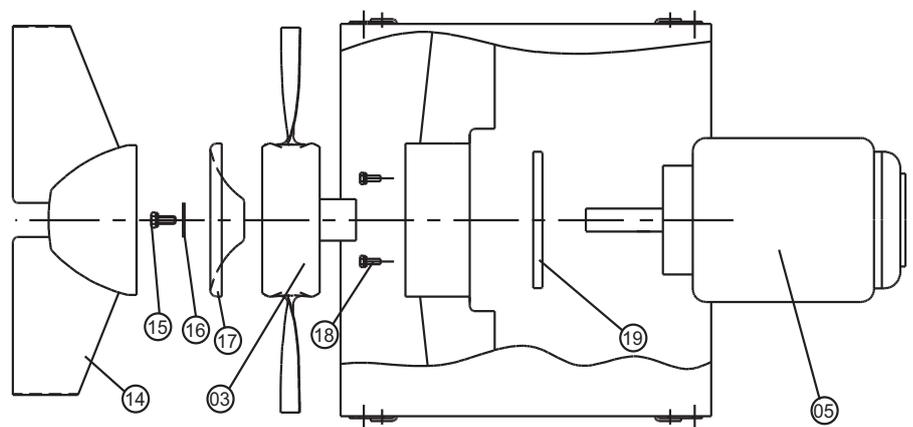

Figure 3. Dismounting/Mounting of motor
- 4 **ARR:** Remove screws in guide plates of centre fairing and pull out centre fairing figure 3, item 14.
- 5 Remove centre screw of impeller item 15 and centre disc figure 3, item 16.
- 6 **AUR:** Remove hub cover figure 3, item 17.
- 7 Dismount impeller figure 3, item 03 by means of a puller fastened in the two threaded holes of the hub boss.
- 8 Remove 4 set screws figure 3, item 18.
- 9 Dismount motor item 05 and motor flange figure 3, item 19. Note the placing of the motor prior to dismounting. When dismounting and disassembling the fan be careful not to expose the individual parts to shocks etc. likely to damage the motor bearings or other fan components.
- 1 After servicing remount the motor figure 3, item 05, see that the motor flange item 19 is correctly located and that the motor shaft is concentrically placed in the fan casing before tightening the set screws item 18.
- 2 Mount the impeller figure 3, item 03 on the motor shaft by means of screws fastened in the threaded hole of the motor shaft. Fix the impeller hub to rest against the motor shaft collar. Check that the blade clearance is the same throughout the circumference of the casing. If this is not the case, adjust the motor location in the mounting frame arrangement.
- 3 Mount centre screw figure 3, item 15, centre disc item 16.
- 4 **ARR:** Mount the centre fairing figure 3, item 14.